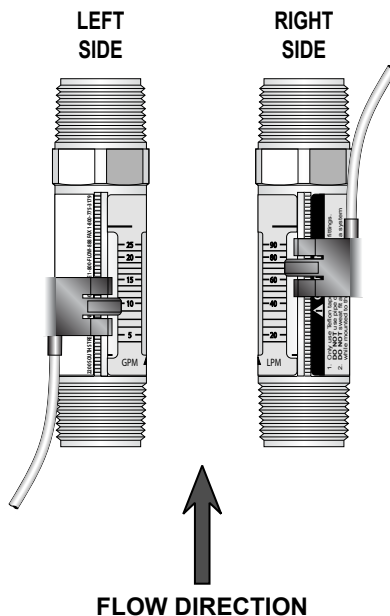

Figure 21: Switch adjustment
1. With the fluid running through the meter, gently move the switch adjustment tab outward until the switch body is free to slide up or down on the serrated rail. See Figure 21.